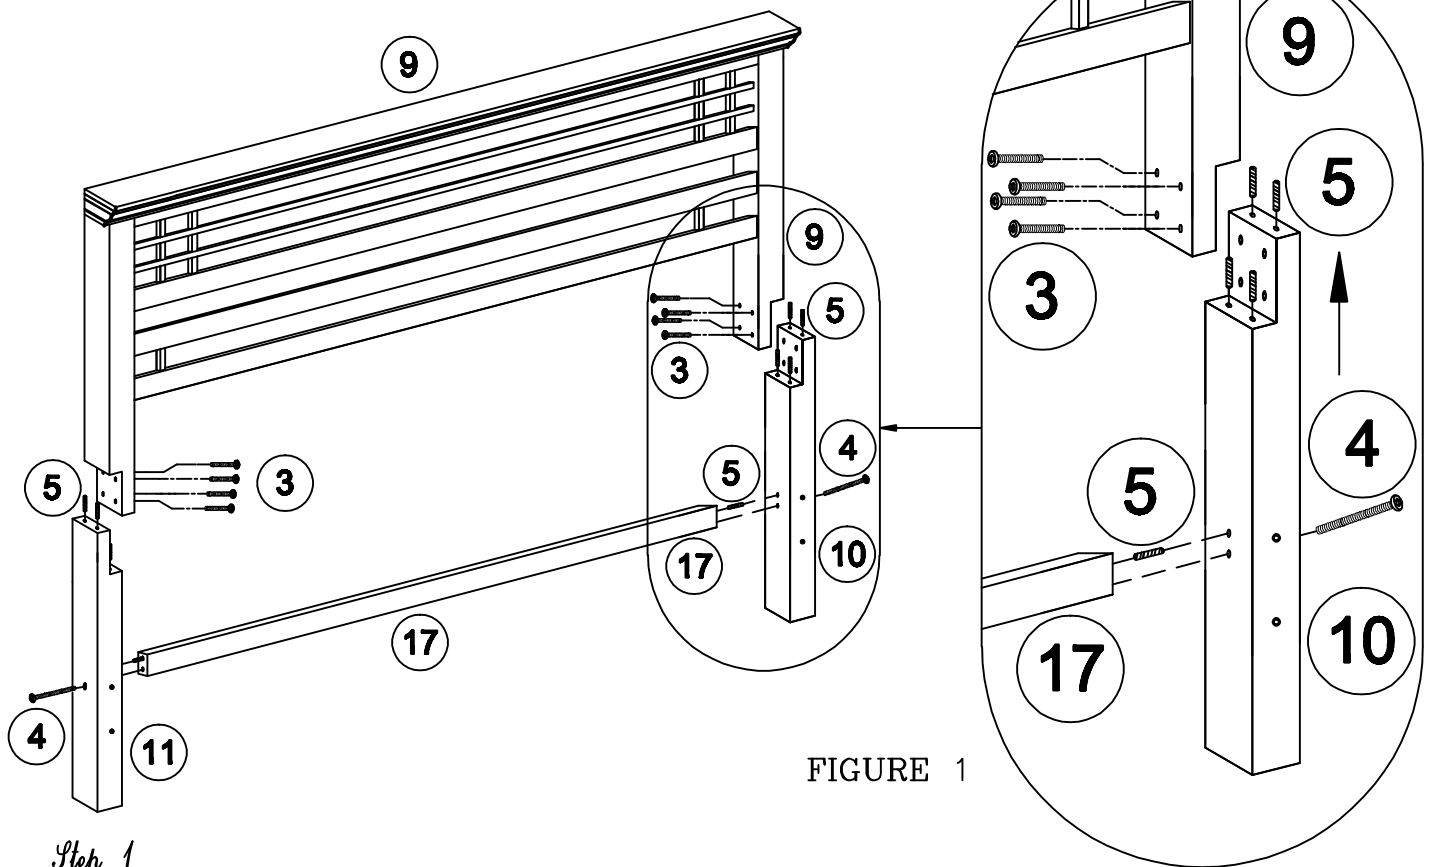
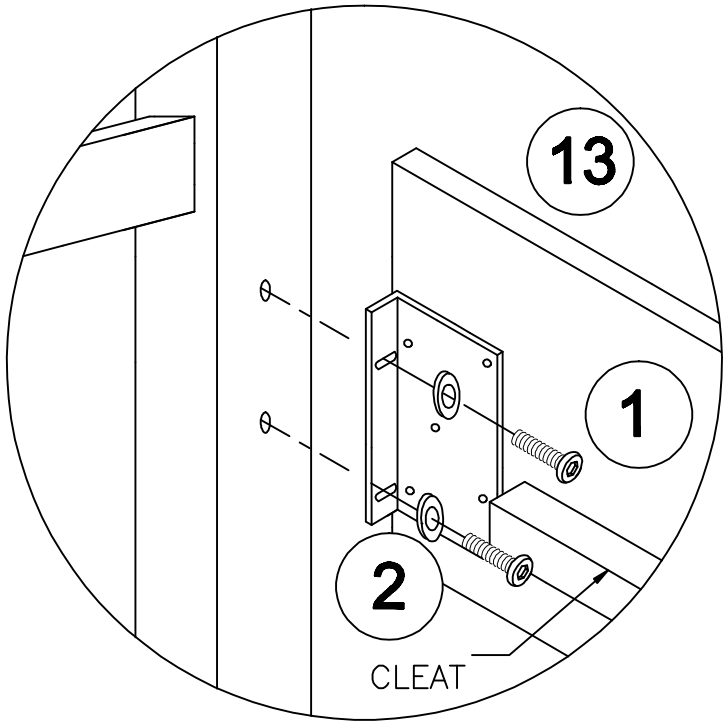

FIGURE 1
FIGURE 2
- Insert wood dowels (5) into top of leg extensions (10/11) and bottom rail (17). See Figure 1
- Now insert legs (10) into bottom of headboard panel (9) post. Secure leg extensions to headboard post with screw (3) use allen wrench (8). HAND-TIGHTEN "Do not tighten screws". See Figure 1
- Secure bottom rail (17) to headboard leg (10) with screw (4) and repeat same steps with headboard leg (11).
- Tighten all the screws securely using allen wrench (8).
- Align holes in side rails (13) metal bracket with holes in headboard post. See Figure 2
- Secure connection with screw (1) and metal washer (2).